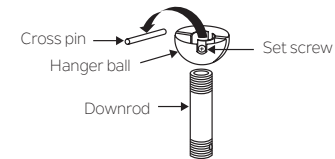

Fig. 7
**Step 5.** Remove the hanger ball from the downrod assembly by loosening the set screw, removing the cross pin and sliding the ball off the rod. (Fig. 7)